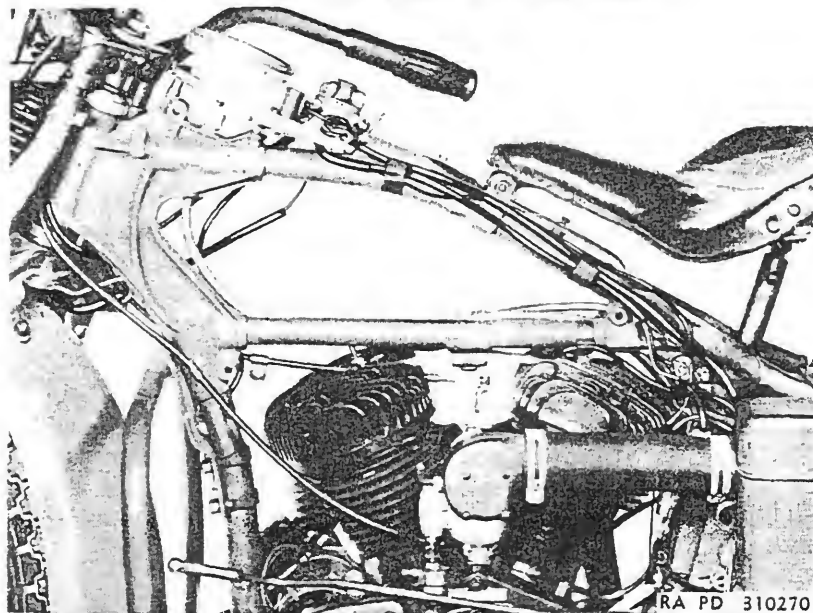

Figure 78—Wiring Cables, Left Side
a. **Cable System.** Since ignition and lights are controlled by the ignition and light switch, all wires terminate at the ignition and light switch. Cables for wire protection are used, making it necessary to replace cables rather than individual wires. A study of figure 73 will be helpful when removing or installing any of the wiring cables. Also study figures 78 and 79 and note how cables are arranged on frame, and how they lead to the switch panel.